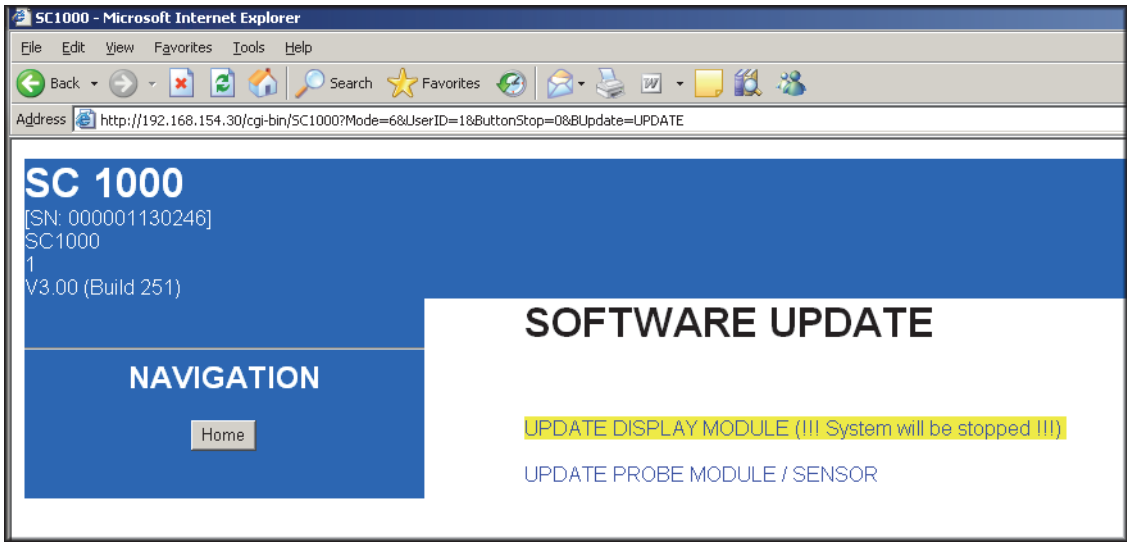

Figure 11 Update Display Module link
7. Click on the **UPDATE DISPLAY MODULE** link (Figure 11).